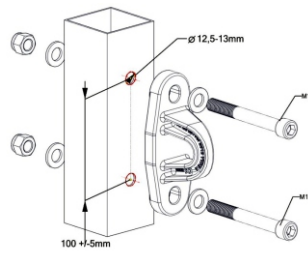

Figure 5. Installation of bolt fasteners with anchor point on steel structure
- per i bulloni in acciaio inox (A2) e resistente agli acidi (A4) – classe di resistenza non inferiore a 70. (fig. 5)
- for stainless steel (A2) and acid resistant steel (A4) bolts – strength class no lower than 70. (Figure 5)